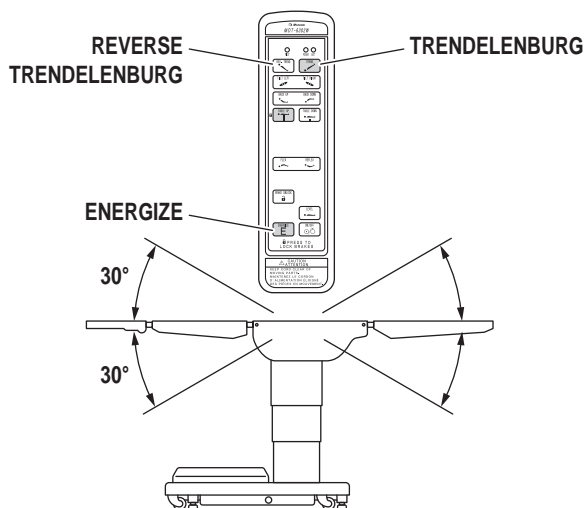

Figure 2-8. Trendelenburg Positioning
**b. Trendelenburg** To place the table in a Trendelenburg (head down) position, press the ENERGIZE button and then the TREND button (figure 2-8). To place the table in a reverse Trendelenburg (head up) position, press the ENERGIZE button and then the REV TREND button. Trendelenburg positioning of up to 30° may be obtained.